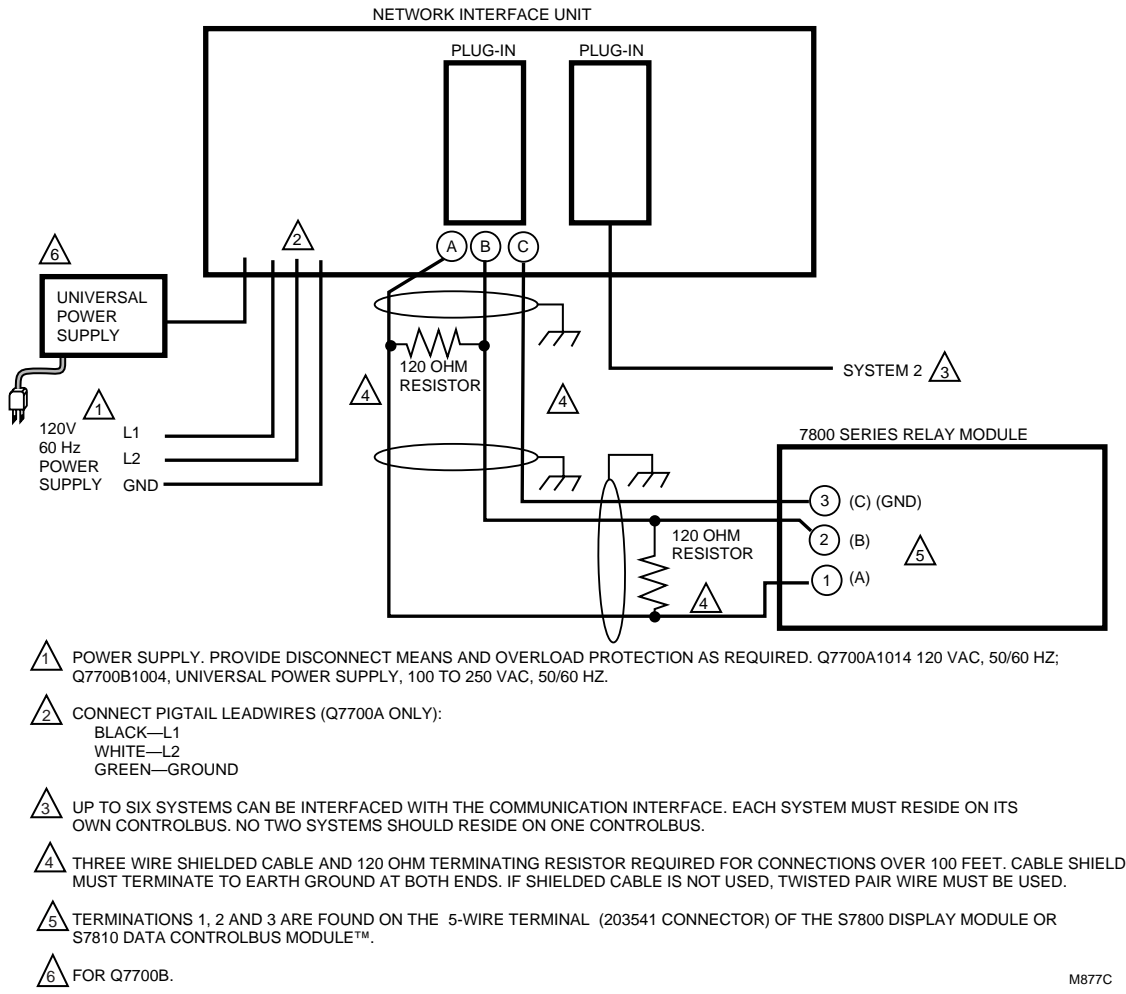

Fig. 6. Network Interface wiring.
Refer to Fig. 6 for proper system wiring.
- d. Route the ControlBus™ cable so that all devices are connected in a daisy chain configuration. Connect 1(a) to 1(a), 2(b) to 2(b) and 3(c) to 3(c). The interconnection of the devices is not important, except that the devices at the closest and farthest ends of the daisy chain configuration string require a 120 ohm, 1/4 watt termination resistor between terminals a and b of the electrical connector for any connection over 100 feet. See Fig. 6.
12. Recheck all wiring with Fig. 6.
1. Refer to Fig. 6 for proper wiring.